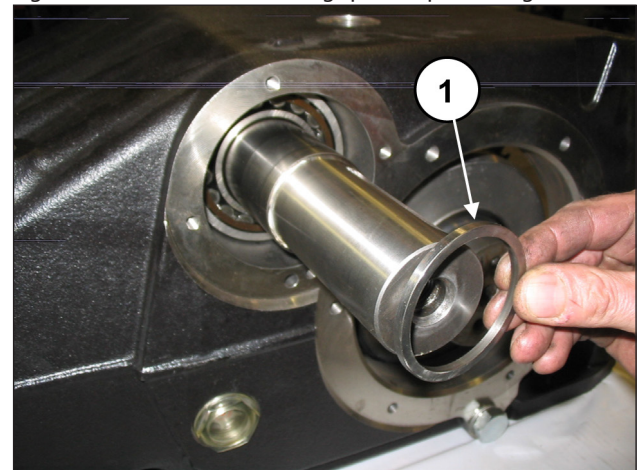
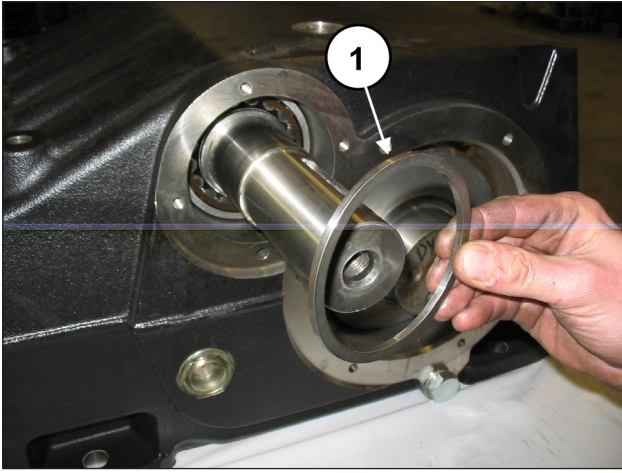

Fig. 60
Fig. 61
At both sides, insert the internal bearing spacers (pos. ①, Fig. 60) and the external bearing spacers (pos. ①, Fig. 61).